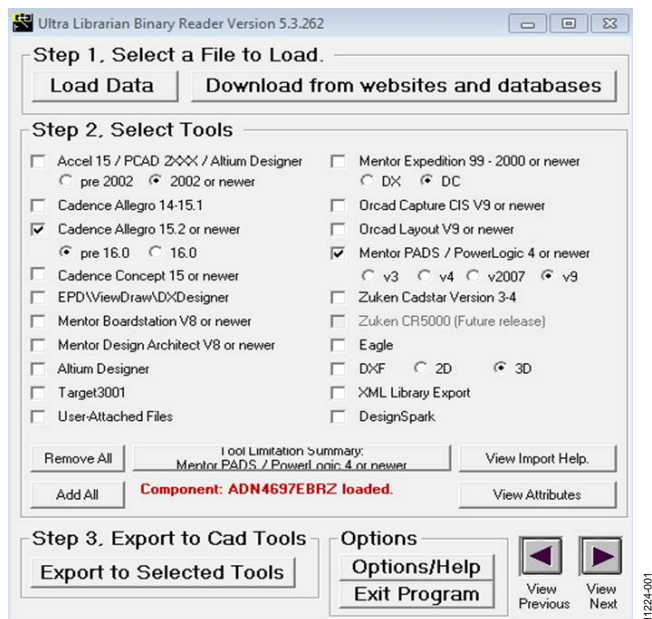

Figure 1. Importing a File to the Ultra Librarian Reader and Exporting to Cadence
2. Open the **Ultra Librarian Binary Reader** (see Figure 1).
6. Select the desired CAD tool from the listing provided in Figure 1. For this example, **Cadence Allegro 15.2 or newer** is selected.
3. Select **Load Data** as shown in Figure 1.
5. Select **Mentor PADS** (see Figure 1) and then select the **v9** radio button.
5. Select the desired CAD tool from the listing provided in Figure 1. For this example, **Cadence Allegro 15.2 or newer** is selected.